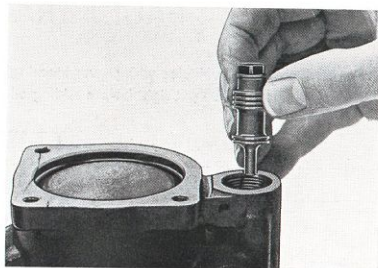

Fig. 6-113. Fitting control valve
12. Fit the control valve piston (Fig. 6-113). Fit the spring (26), packing (24) and plug (23).